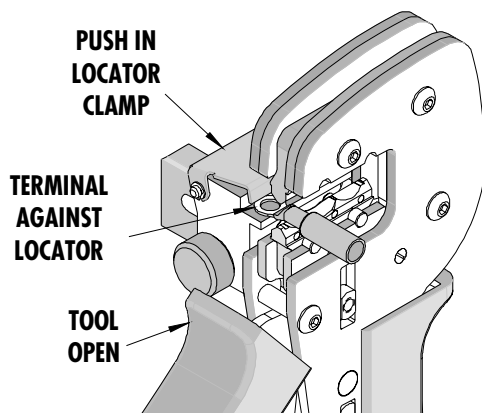

Figure 1
1. Push in on the locator clamp to lift and position the nose of terminal under the clamp and push against the shoulder with the barrel facing up into the color-coded nest. Release the locator clamp to hold the terminal. See Figure 1.